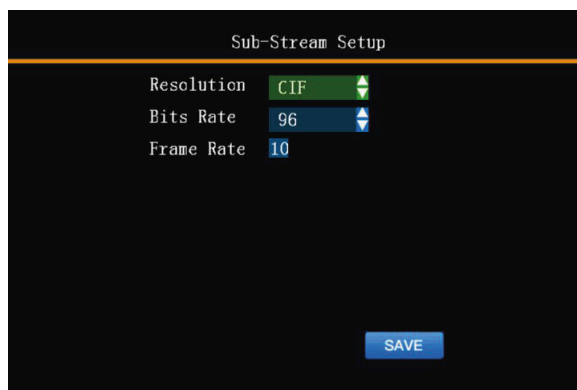

Figure 3-16
3.3-4 Sub-Stream (Figure 3-16)